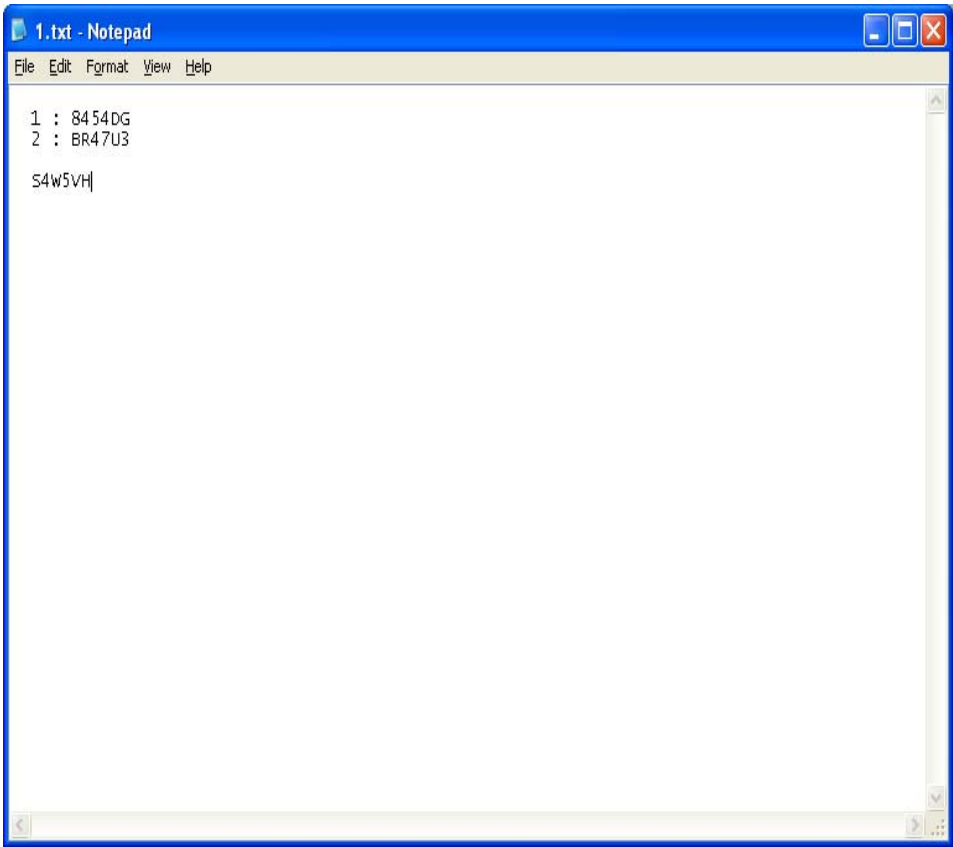

Figure 1-18
- ① Introduction of code file formats. For example, suppose there is a code file 1.txt as shown in figure 1-18: